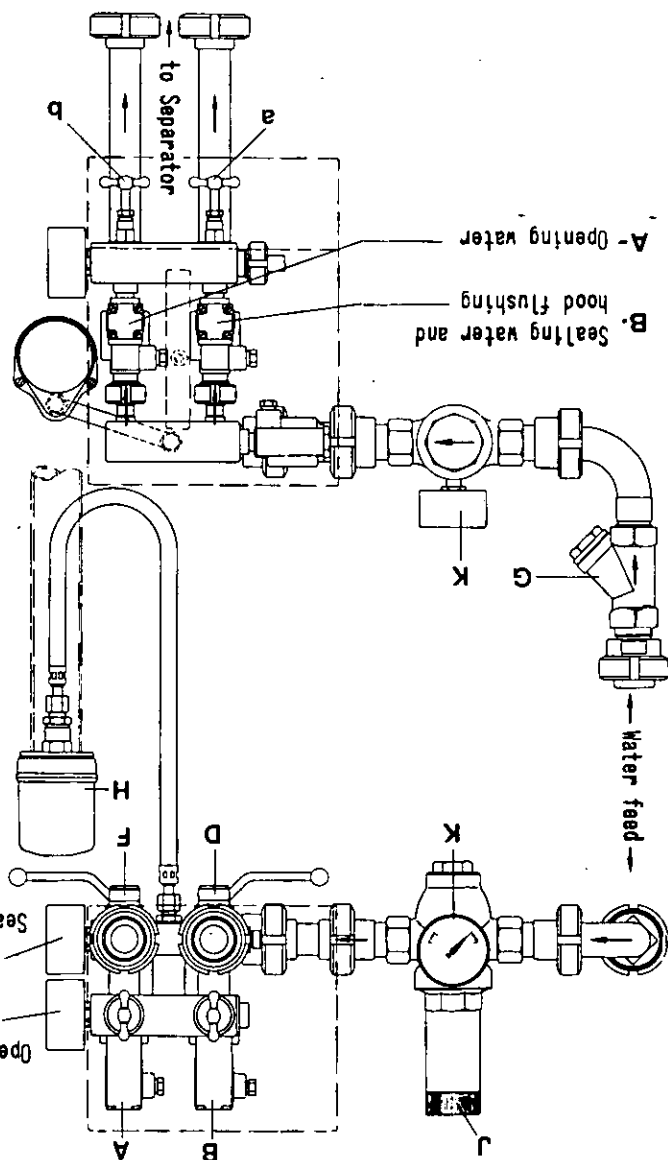

Fig. 5/3
3) Strainer G (fig. 5/3) is dirty.	Clean strainer.
5) Solenoid valve A (fig. 5/3) does not function properly, because the diaphragm has become brittle and, therefore, fails to seal properly.	Install a new diaphragm. Make sure that hole on outer rim of diaphragm lies over hole of valve housing.
6) Rapid-closing valve F (fig. 5/3) is damaged. There is a continuous flow of opening water to the bowl.	Install a new rapid-closing valve.